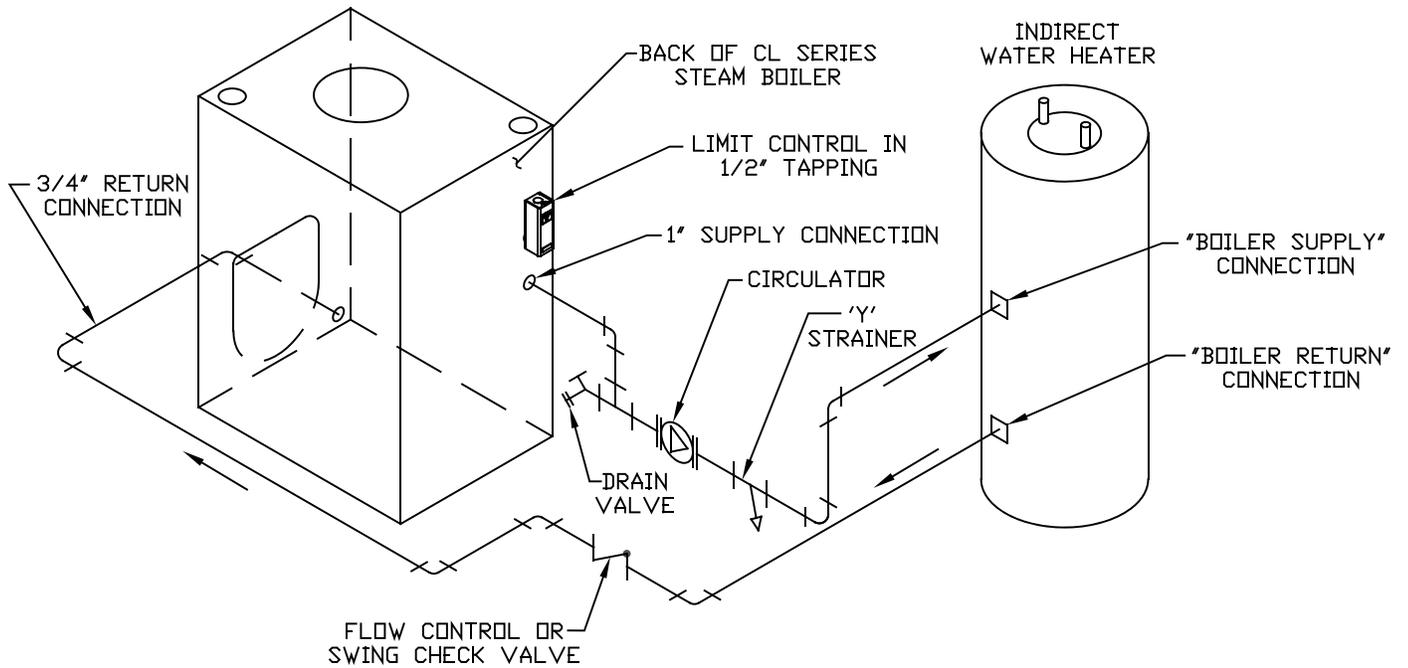

Figure 4-3: Indirect Domestic Water Heater Piping with V8H Steam Boiler
- B. CONNECT INDIRECT DOMESTIC WATER HEATER PIPING as shown in Figure 4-3.